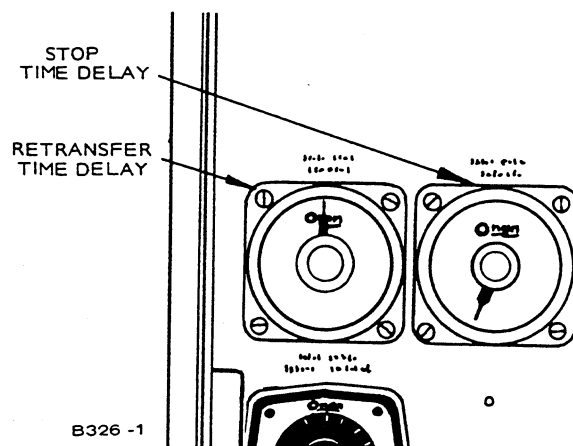

FIGURE 19. STOP AND RETRANSFER TIME DELAY RELAYS
2. Set the time delay by turning the adjustment knob in the center of the delay. See Figure 19.